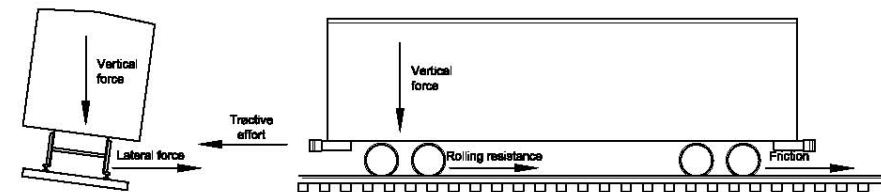

Figure 1
Each car and locomotive exerts two forces on the track. First, the vertical force (V) consisting primarily of the units weight presses down on the top of the rails. Second, the wheels exert a lateral force (L) outward from the center of the track via the flanges and tires of the wheels. (Fig. 1) As a side note,